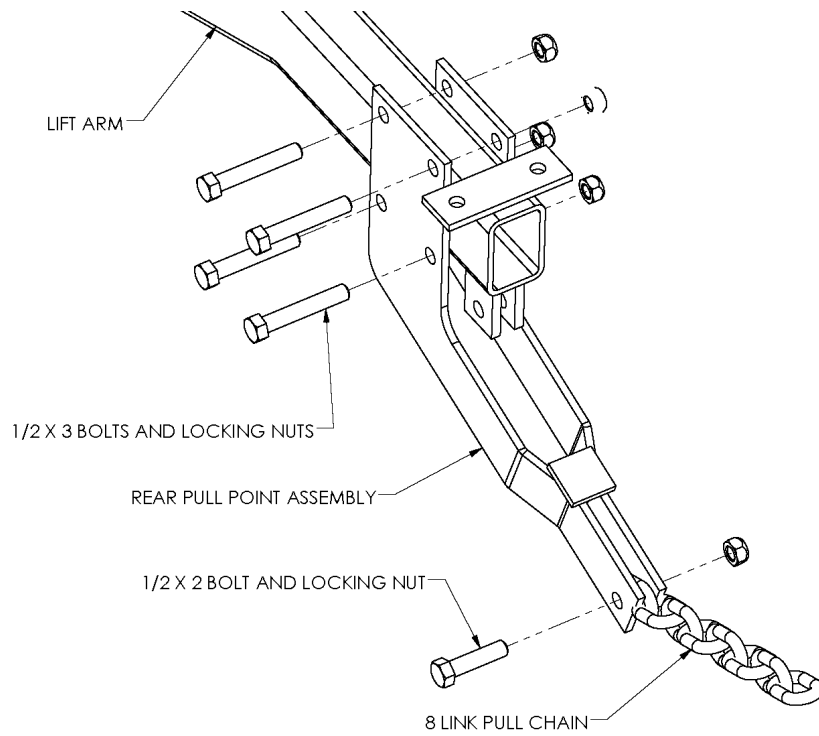

Figure 20
4. Attach a rear pull point assembly to the rear end of each lift arm. Use four 1/2" x 3" bolt and lock nuts. Refer to Figure 20.